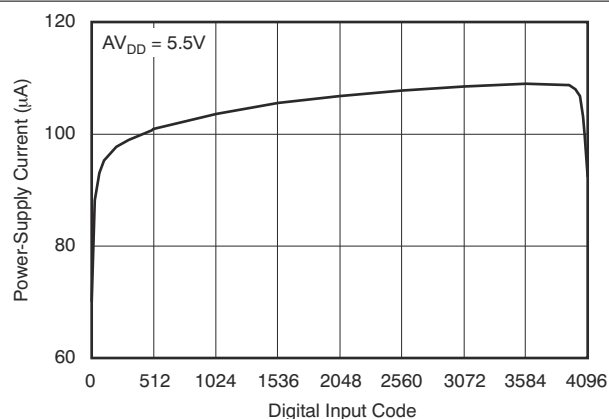

Figure 7-16. Power-Supply Current vs Digital Input Code
(6) For more details, see Figure 7-16 and Figure 7-58.